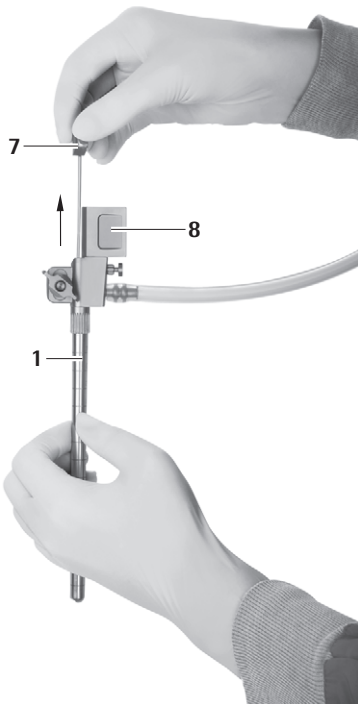

Fig. 9
- ▶ Remove the obturator for the oval working channel 7 carefully from the MINOP InVent trocar 1, see Fig. 9.